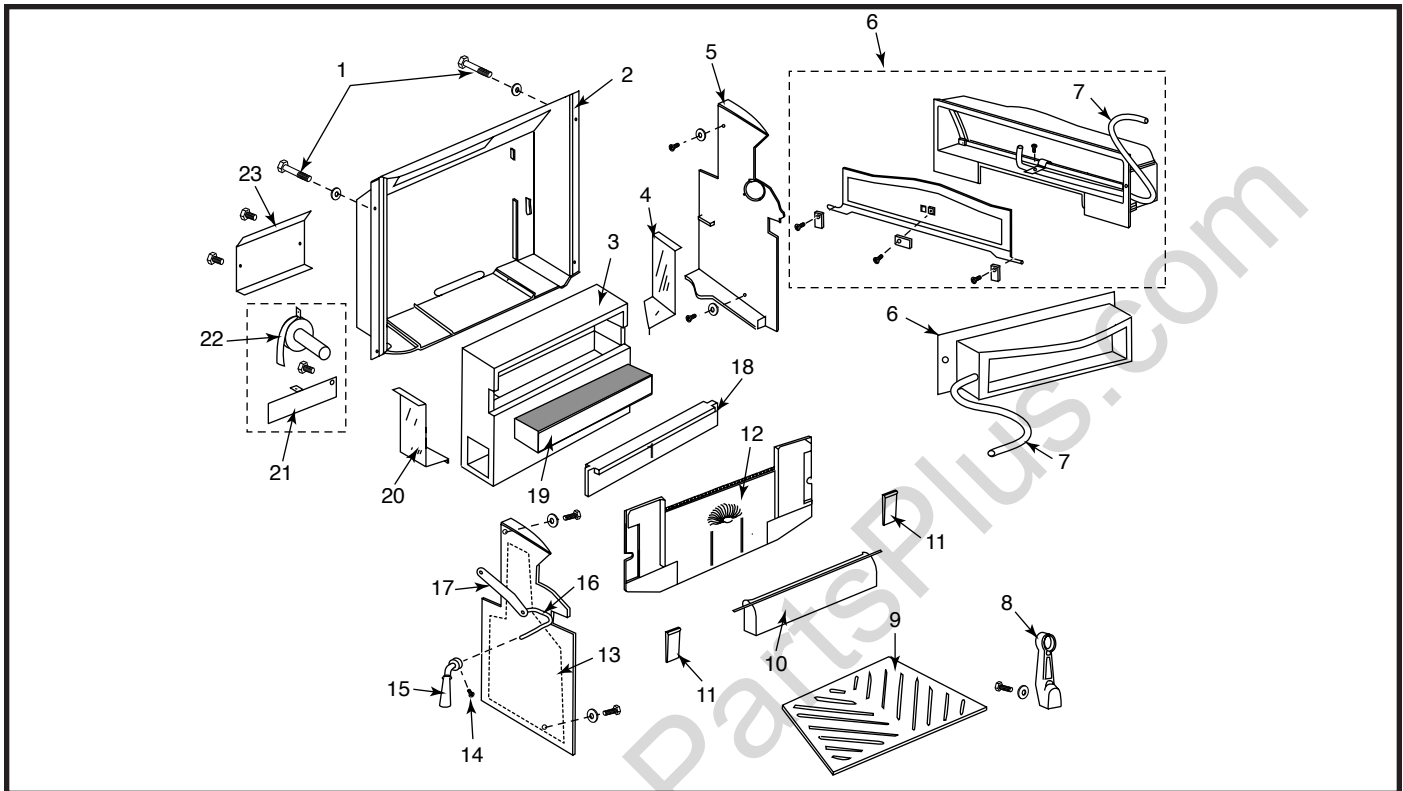

Fig. 6 Firebox parts diagram, Defiant Encore Model 2190 stove.
3. Lift the lower edge of the throat hood (Fig. 6, Item 10) toward the front and slide the hood to the left or right. If you slide it to the right, the support pin will then drop off the left bracket on the upper fireback; then slide it back toward the left to disengage the hood from the upper fireback.
4. Use the hammer to tap the two wedges (Fig. 6, Item 11) upward from their brackets, and remove the wedges.
5. Remove the lower fireback (Fig. 6, Item 12) by pulling the upper edge toward the front. Then lift it and angle it out of the stove through the front door or through the griddle opening. Scoop out any ashes or charcoal in the bottom groove where the lower edge of the lower fireback fits.
6. Remove the left and right inner walls (Fig. 6, Items 5, 13) of the stove. Hex bolts at the top and bottom hold them in place. These walls have rope gaskets, forming seals between the inner walls and the outer walls of the stove. With the bolts removed, pry the forward edges of the inner walls toward the center of the firebox. The panels will come out through the front opening or through the griddle opening.
7. Use the Allen wrench to loosen the Allen bolt (Fig. 6, Item 14) in the base of the damper handle (Item 15). Leave the loosened bolt in the handle to keep from misplacing it. Pull the handle off the J-shaped damper handle rod. (Fig. 6, Item 16) Push the rod into the firebox.
8. With the damper open, remove the damper activating link (Fig. 6, Item 17) on the left side of the firebox. This piece is shaped like a hockey stick and has a hole in each end. The forward hole engages the damper activating arm and the rear hole engages the damper torsion bar (Item 7).
10. A hex bolt (Fig. 6, Item 1) on each side of the stove back holds the upper fireback assembly (Item 6) in place. Remove and discard these bolts. Keep the washers. From inside the firebox, pull the right-hand end of the upper fireback toward yourself; you may need to use a flat screwdriver to pry the fireback loose from the panel behind it.
14. On the outer back side of the stove, there is a steel plate (Fig. 6, Item 23) held in place with two Phillips bolts. Remove the bolts and the steel plate.
1. Remove the catalyst access panel (Fig. 6, Item 18) from the new refractory chamber. Install the chamber in the back of the stove, with the opening facing forward.
2. Reinstall the two steel heat deflectors, (Fig. 6, Items 4, 20) one on each side of the refractory package. The shorter arm of each goes at the bottom of the deflector, with the longer arm against the cast iron back sides of the rear chamber. These deflectors provide important protection from the very hot gases leaving the refractory chamber.
3. Slide the catalytic combustor (fig. 6, Item 19) into place within the refractory chamber. Notice that the openings of the honeycomb must be on the top and bottom horizontal surfaces of the combustor, as shown in Figure 6.
6. Join the rear hole in the damper activating link (the 'hockey stick') (Fig. 6, Item 17) to the end of the damper torsion bar. (Fig. 6, item 7) Note the positioning of the link; the blade of the 'hockey stick' goes toward the front of the stove, aiming downward. This is the only position in which the link will close and lock the damper.
7. Join the damper activating arm (Fig. 6, Item 16) to the link. Note the proper positioning; the short segment of the arm goes under the link when the damper is closed.
8. Attach the damper handle (Fig. 6, Item 15) to the activating arm (Item 16) and secure it with the Allen bolt. Be sure the handle stub seats fully onto the J-arm. (Fig. 6, Item 16) Test the action of the handle to ensure the damper works smoothly. The damper should 'lock' closed when the handle is aimed fully to the rear and the bottom edge of the link hits the top of the activating arm.
19. Replace the slotted grate (Fig. 6, Item 9); the wider openings face downward, toward the ashpan.